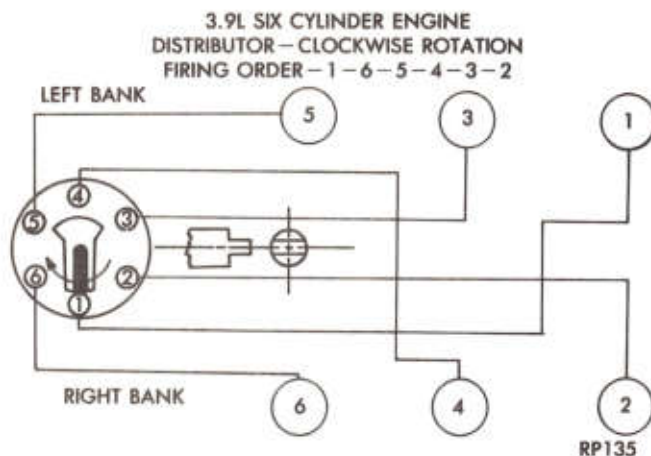

Fig. 41—Distributor with Rotor Positioned Under No. 1 Tower of Cap
(1) Hold the distributor over the mounting pad on cylinder block.
(2) Turn rotor until it points to approximate location of No. 1 tower terminal in distributor cap (Fig. 41).
(3) Place distributor O-ring in position.
(4) Lower the distributor and engage the shaft in